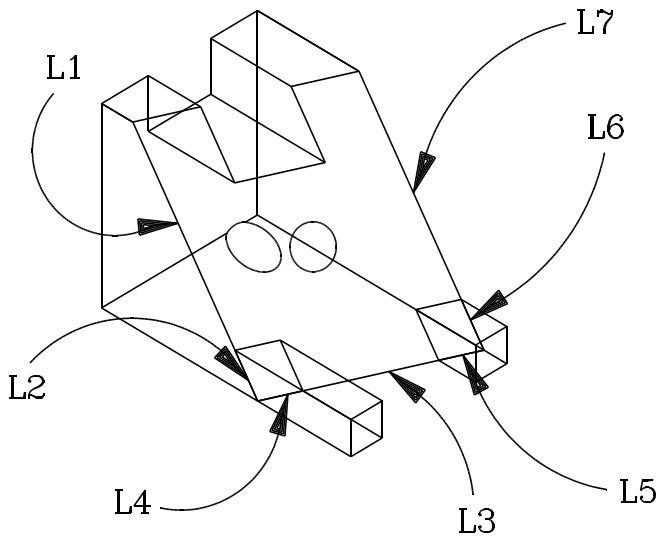

Figure 26
64. Click on CLEAR. (See Figure 26 for the results of the projection.)